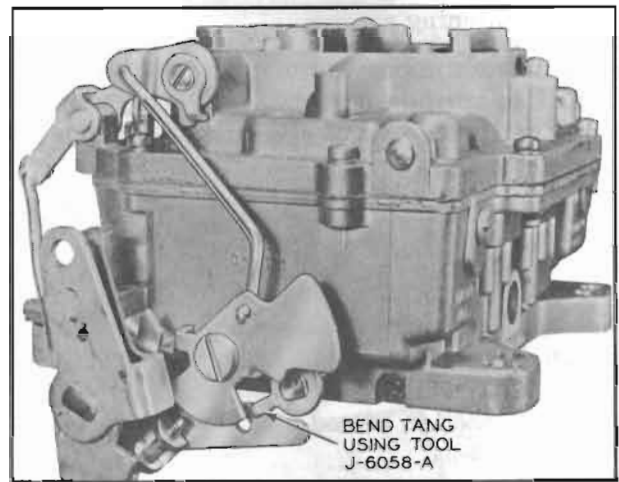

Figure 3-59—Secondary Throttle Lock-Out Adjustment
24. *Adjust Secondary Throttle Lock-Out.* Open primary throttle valves slightly and manually open and close choke valve. Tang on secondary throttle lever should freely engage in notch of lock-out dog while barely missing edge of notch. If necessary to adjust, bend tang on secondary throttle lever using Tool J-6058-A. See figure 3-59.